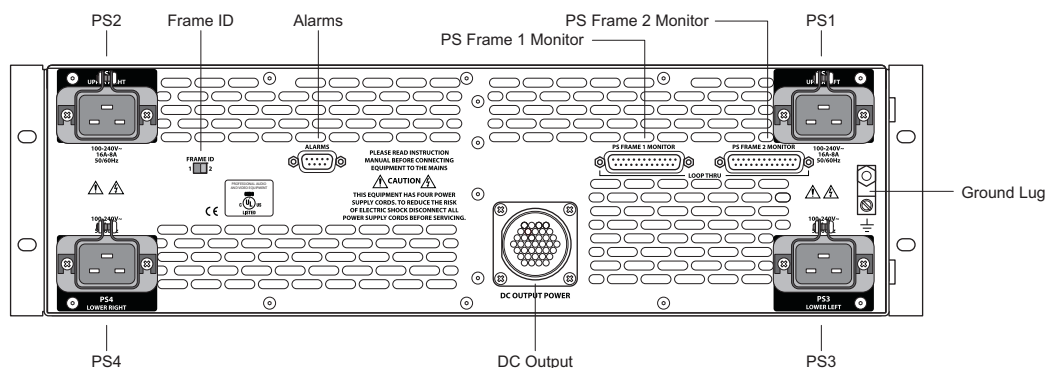

Fig. 8-12: NV8300 Power Supply Frame (Rear View)
- 13 Set the Frame ID switch on the NV8300 power supply frame to **2**. See Figure 8-12.